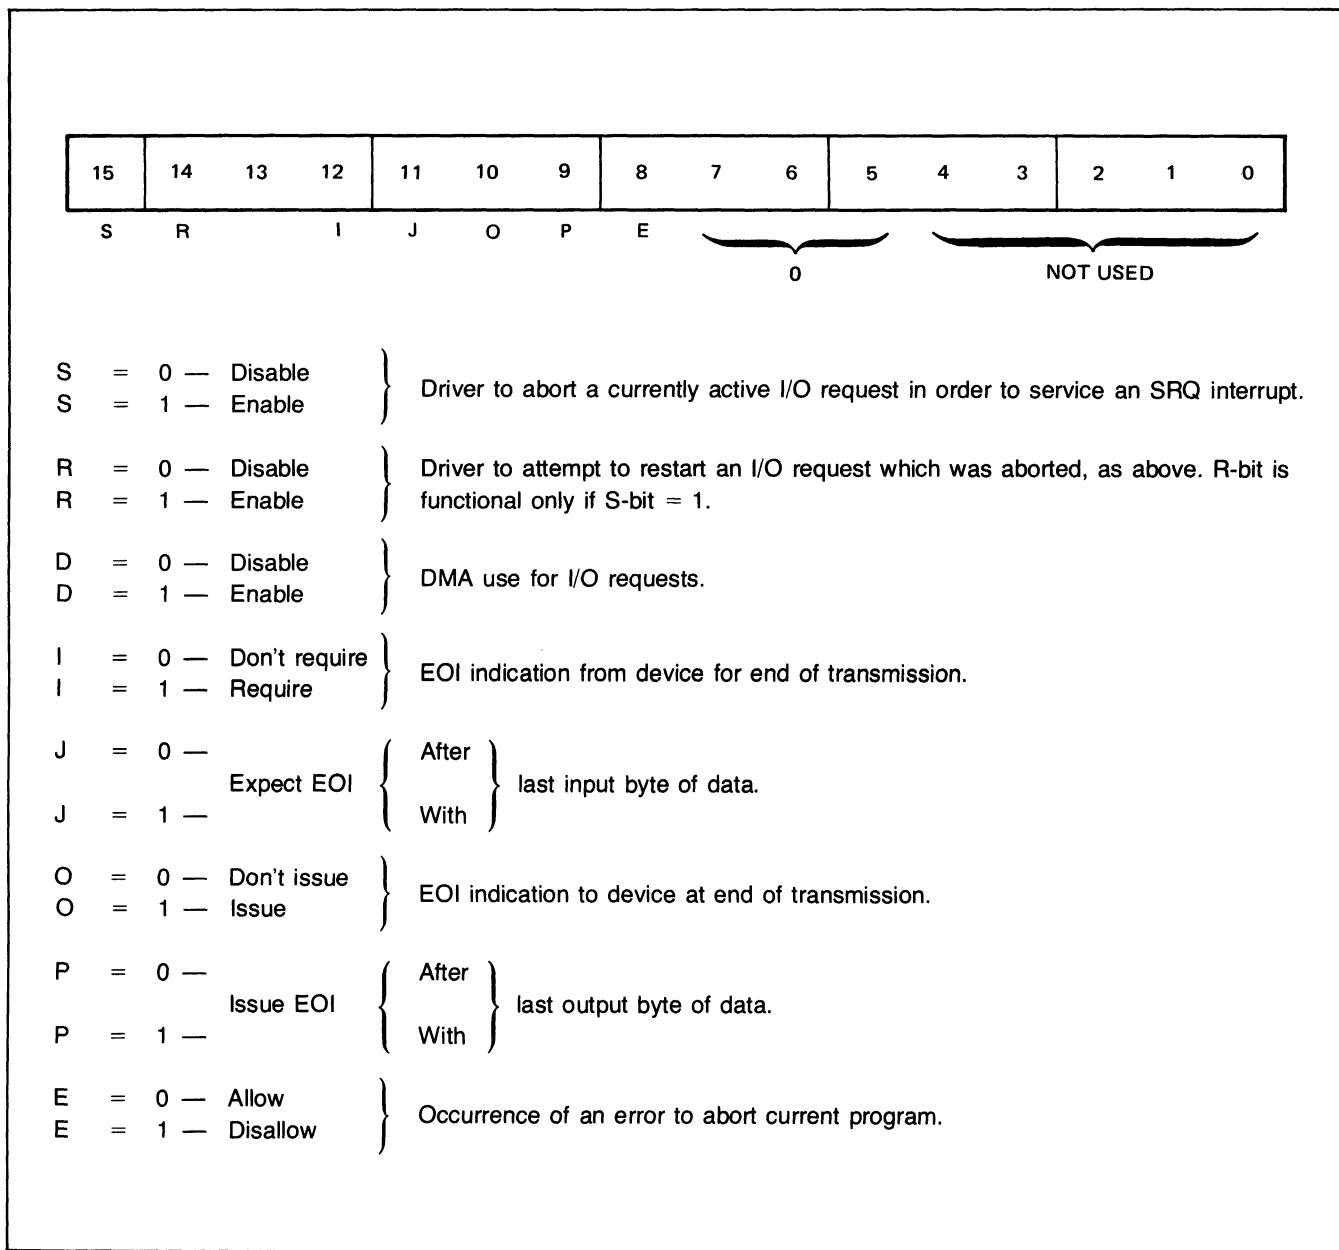

Figure 2-1. Format of IPRAM in Auto-Addressing I/O Control Request (ICNWD = 25)
ASSEMBLY LANGUAGE	<p>Where:</p> <p>ICODE = Function Code 3 = I/O Control</p> <p>ICNWD = Control Word (00xxlu)</p> <p>lu = bits 0-5 (octal LU number of HP-IB device) xx = bits 6-10 Function Code (octal)</p> <p>00 = Selected Device Clear 01 = Issue EOR 06 = Dynamic device status 11 = Device line spacing 16 = Set REN true 20 = SRQ schedules program in IPRAM (unbuffered I/O only) 21 = Disable function code 20 25 = Configure driver word, this device only 27 = Clear driver configuration, this device only</p> <p>IPRAM = Optional parameter. When Function Code = 11, IPRAM = positive number of CR/LF's to be issued to device, or negative integer to generate a form feed. IPRAM = 0 to suppress appending LF to data on next write.</p> <p>When Function Code = 20 (see example) IPRAM = address of the program name.</p> <p>When Function Code = 25 (see example) IPRAM = Configuration Word (see figure 2-1).</p>
- Configure Driver Word (xx = 25). This request configures the driver word for specific devices. The configuration word, which is shown in Figure 2-1, defines such things as DMA usage and immediate driver reaction to service requests. (Refer to paragraphs 2-8, 2-9, and 2-10 for more information.) A specific configuration word is active only during a request to its respective device and overrides any other prevailing conditions. If not defined, the configuration word defaults to:
EOR for ASCII data is in the form of a carriage return/line feed (CR/LF) command. For binary data, EOR is indicated by a signal on the HP-IB EOI line. In order to properly set up the driver to respond to the EOI line, a Control Request should be the first call issued to each I/O device for EOI configuration. If not, the previously defined defaults will be used. Refer to figure 2-1, bits 9-12.
EOR is determined by configuration word bits O and P (see figure 2-1).